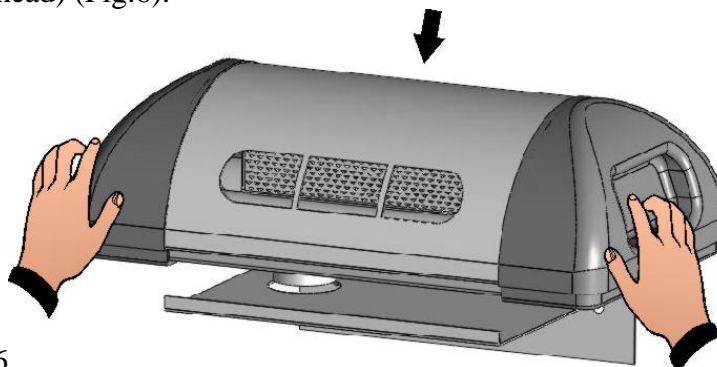

Fig.6
3. Fix the support bracket to the wall: make sure it is level both transversely and longitudinally (one for each distributor head) (Fig.6).